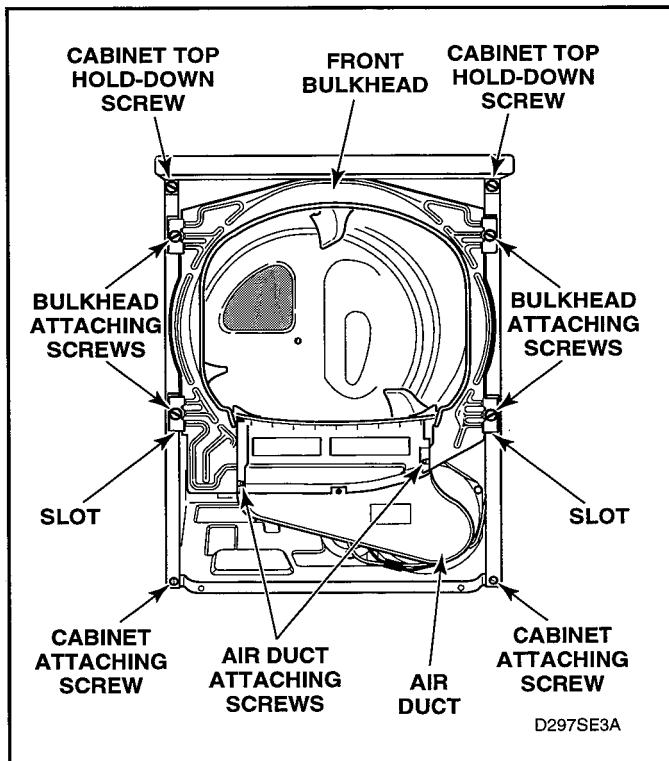

Figure 5-22
- Remove four screws holding bulkhead to front flange of cabinet and lift complete bulkhead assembly out of slots in cabinet. See figure 5-22.
- Remove four screws holding bulkhead to front flange of cabinet. Then, lift complete bulkhead assembly out of slots in cabinet. See figure 5-22.
- Remove four screws holding bulkhead to front flange of cabinet. Then lift complete bulkhead assembly out of slots in cabinet. See figure 5-22.
- Loosen two cabinet top hold-down screws. See figure 5-22.
- h. Remove four screws holding bulkhead to front flange of cabinet. Then, lift complete bulkhead assembly out of slots in cabinet. See figure 5-22.